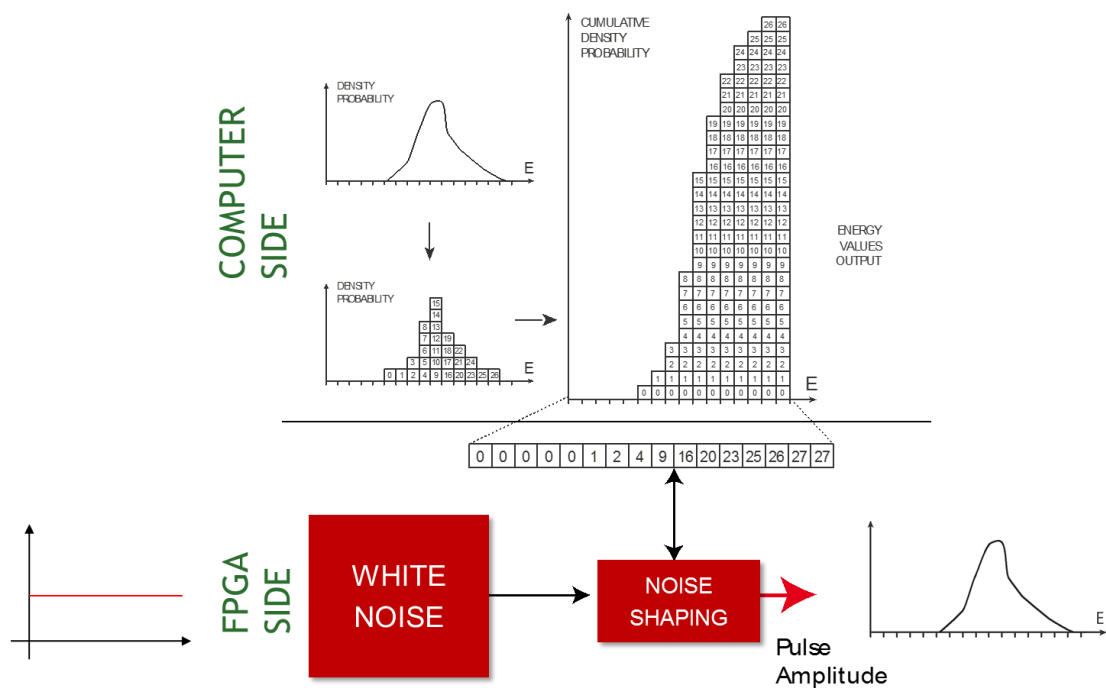

Fig. 6.2 Emulation of a spectrum.
With reference to **Fig. 6.2**, each square of each column is sequentially numbered. Consider the simplified case in which the total number of squares under the curve is a power of 2, e.g. $2^5=32$. Using 5 bit in the random number generator, all the 32 numbers can be obtained with the same probability, i.e. the random numbers map completely the area under the spectrum curve. Every time a random number is generated, the algorithm searches the number in the spectrum area and, when finds it, delivers the bin number n thus indicating the corresponding energy value E_n . If we consider again a generic x bin two times higher than a y bin, it is easy to see that, since the random numbers with equal probability map all the squares, there is twice the probability that the random number picks up a square in x rather than in y column, which means that generated pulses with E_x energy are twice those with E_y energy.
In this way, only one memory cell per bin is required. Using the cumulative spectrum, it is still possible to identify the bin that contains the generated random number by means of an extension of the described algorithm. For instance (see **Fig. 6.2** Fig. 6.2), if the random number is 18, it is easy to see that it belongs to the memory cell number 10: in fact, the cell number 10 contains a number that is higher than 18 (20), while the previous cell contains a number that is lower (16); this means that bin number 10 contains the squares that go from 16 to 19, exactly the range in which 18 belongs. So the output energy value correspondent to the random number 18 is 10.